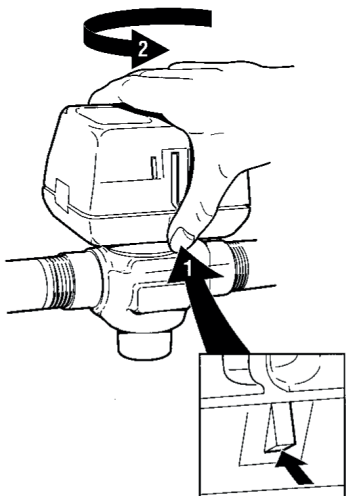

Fig. 5 Latch mechanism
- 2) The actuator head is automatically latched to valve (see figure 5). To remove, lift up on the latch mechanism located directly below the manual open lever. Press the actuator head down towards the body with moderate hand force and turn counter-clockwise by 1/8 turn (45 degrees) simultaneously. Lift the actuator head off the valve body.
- 3) Install the new actuator head by reversing process in (2).